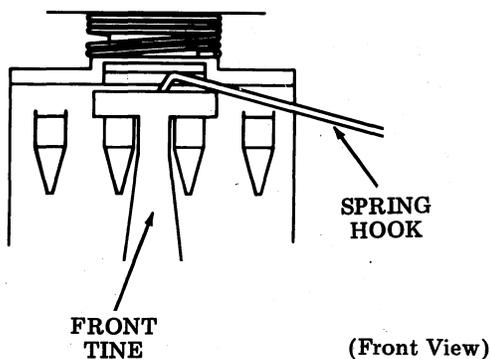

Fig. 12—Front Tine Disengagement
- (3) Continue applying upward pressure to the RETURN key and disengage the front tine from housing using a spring hook. Remove keytop with housing from channel (Fig. 12).